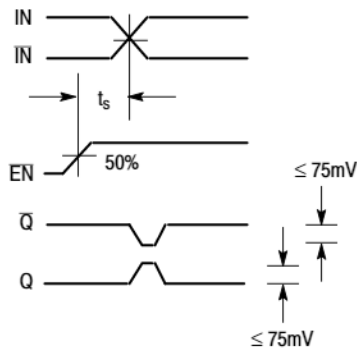

Figure 3. Setup Time
5. The setup time is the minimum time that  $\overline{EN}$  must be asserted prior to the next transition of IN/ $\overline{IN}$  to prevent an output response greater than  $\pm 75\text{ mV}$  to that IN/ $\overline{IN}$  transition (Figure 3).
- The setup time is the minimum time that  $\overline{EN}$  must be asserted prior to the next transition of  $\overline{IN}/\overline{IN}$  to prevent an output response greater than  $\pm 75\text{ mV}$  to that  $\overline{IN}/\overline{IN}$  transition (Figure 3).